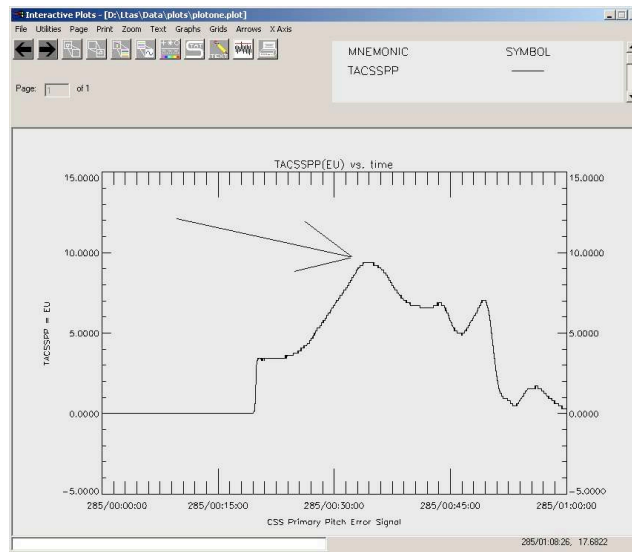

Figure 25: Plot Arrow Example
- Drag the mouse to the location of where the arrow point should be (see *Figure 25*).